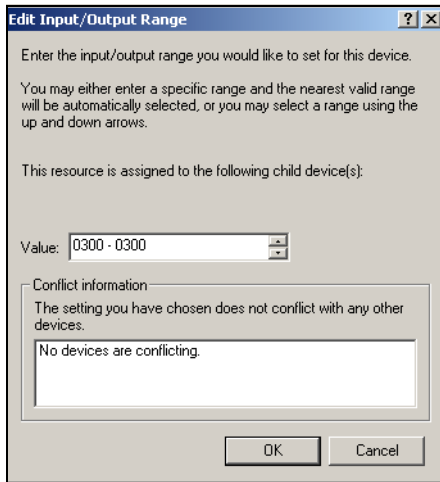

Figure 7-28 *The Edit Input/Output Range dialog box, click OK.*
28. If no devices are conflicting, click **OK**. If another device does conflict, press the up arrow button to increment the value until no devices conflict, then click **OK** (Figure 7-28).